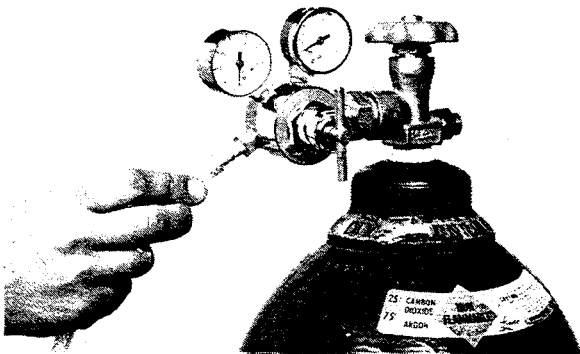

Figure 15
- Slide the unattached end of the welder gas supply hose over the regulator outlet stem of the regulator. (See Figure 15) Some regulators may require installation of a gas coupling nipple for 1/4" I.D. hose, and the other end of the gas hose to the back end of the gas solenoid valve on the wire spool side of the cabinet.